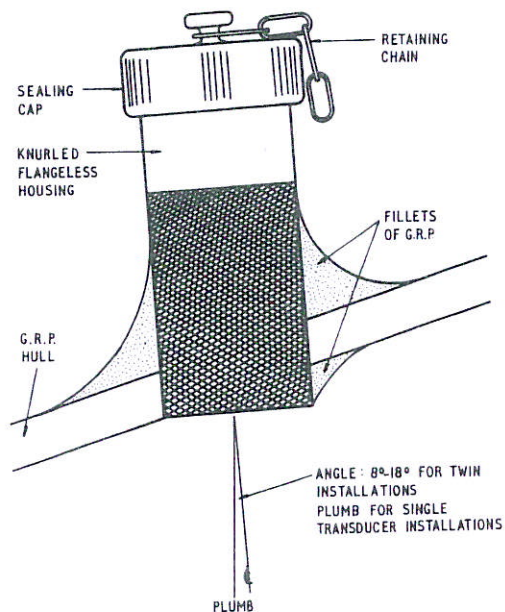
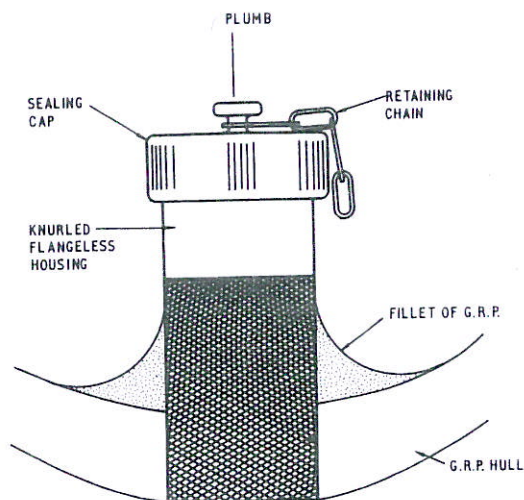

FIG. 3 - INSTALLATION OF FLANGELESS HOUSING IN GRP HULLS
FIG. 4 - INSTALLATION OF FLANGELESS HOUSING THROUGH
4.3.2 Installation of flangeless housings in GRP hulls (Figs. 3 and 4)
These are supplied with a heavily knurled outer surface and are designed for bonding into GRP hulls. Fig. 4 shows the installation through the centre line of a fin keel whilst Fig. 3 indicates the general application.